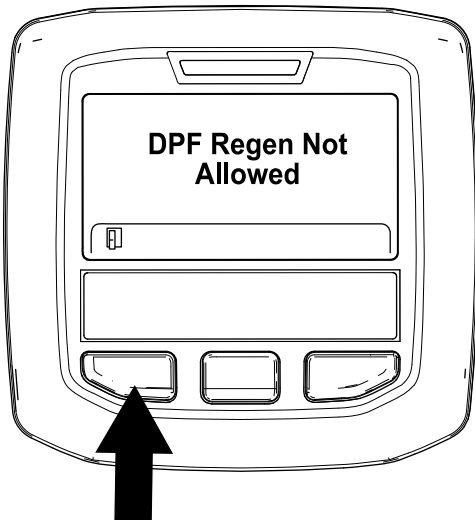

Figure 57
- If the regeneration process is not allowed by the engine computer, the “DPF Regen Not Allowed” message displays in the InfoCenter (Figure 57). Press the left button to exit to the home screen